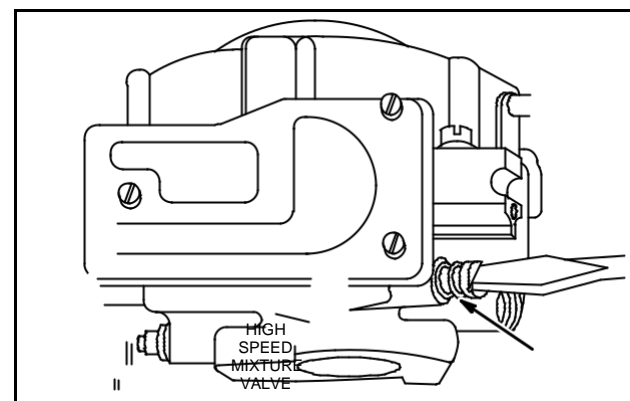

Fig. 55 – Adjust High Speed Mixture
3. Turn mixture valve 1/2 turn counterclockwise, Fig. 55.